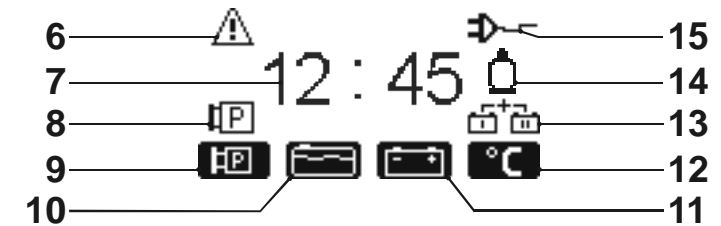

Fig. 2: Standby mask
The settings are saved and the standby mask (Fig. 2) is called up by pressing button (5) with the function display "End setup" (20).
- 25 Button function display "Exit filling level display". By pressing button (5) marked with this symbol, the filling level display can be ended before the 10 seconds are complete and the standby mask (Fig. 2) can be called up.